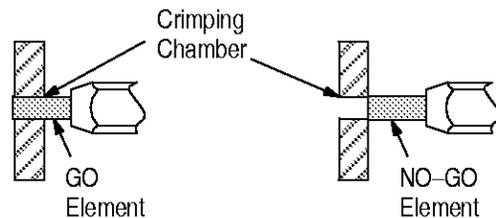

Figure 4
This inspection requires the use of a plug gage conforming to the dimensions provided in Figure 4. AMP does not manufacture or market these gages. To gage the crimping chambers, proceed as follows:
3. Carefully insert GO element straight into the corresponding crimping chamber; do not force it. The GO element must pass completely through the crimping chamber. See Figure 4.